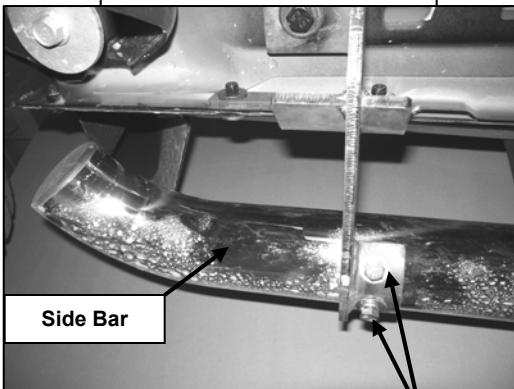

Figure 4
9. Position Passenger Side Bar onto brackets. Attach Side Bar to Mounting Brackets by using the included (6) 8-1.25mm x 25mm Hex Head Bolt, (6) 8mm Lock Washers, and (6) 8mm Fender Washers (Figure 4). Do not tighten at this time.